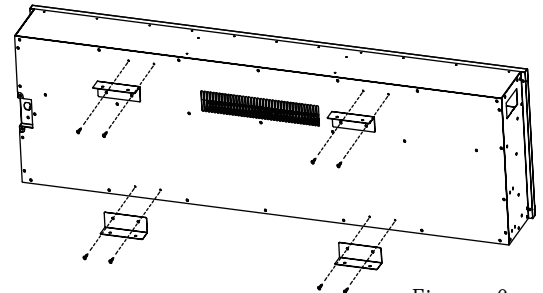

Figure 6
(6) Fix the fireplace unit and mantel with 16x M4x8mm screws. (Figure 6)